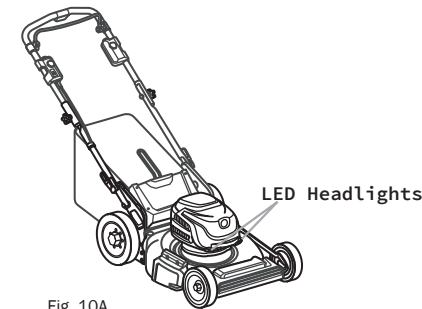

Fig. 10A
- The LED headlights are located on the front of the battery cover (Fig.10A).